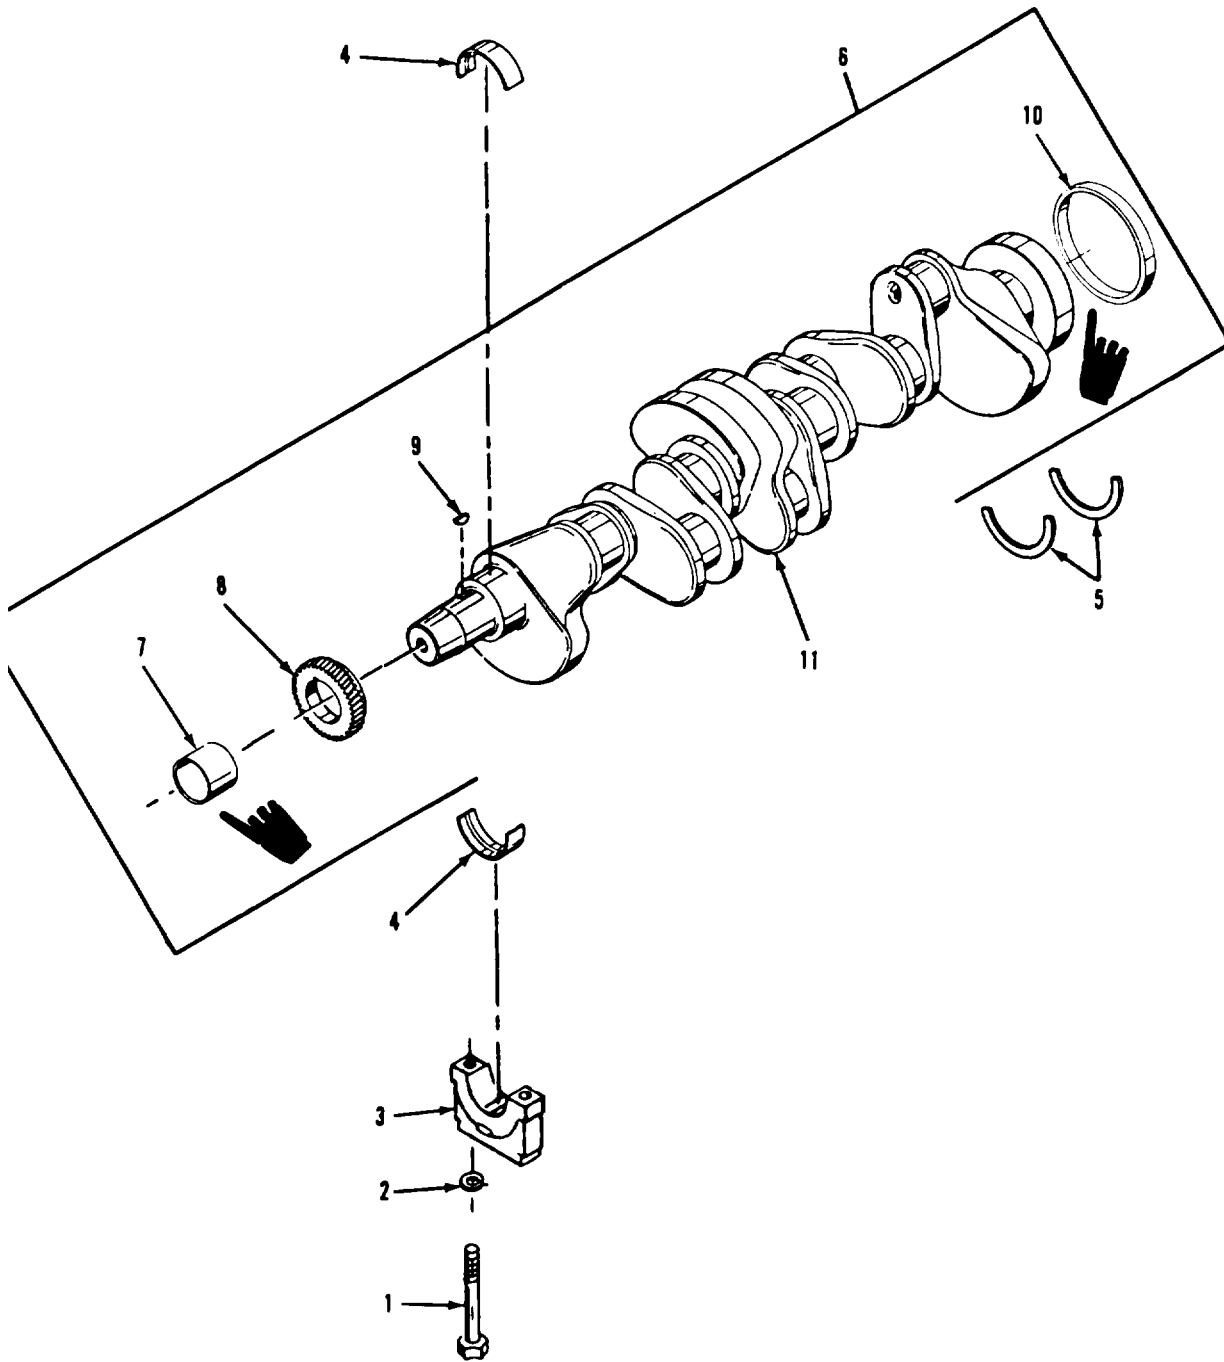

Figure 8-63. Crankshaft group and main bearings,
Refer to figure 8-63 and disassemble crankshaft group and main bearings in the order of index numbers assigned. Pay particular attention to the following:
Do not remove crankshaft gear (8, figure 8-63) and sleeves (7 and 10) unless excessive wear or damage is noted.
- Legend to figure 8-63:
1. Place a small strip of approved plastic between lower bearing half (4, figure 8-63) and crankshaft. Light grease will hold the plastic strip in position.
2. Install main bearing cap (3) and torque bolts from 165 to 185 foot-pounds.
3. Rotate crankshaft one complete revolution. Remove main bearing cap (3, figure 8-63) and measure the thickness of the plastic strip. This measurement is the main bearing clearance. The maximum allowable clearance is 0.010 inch. If allowable limit is exceeded, replace main bearing. Repeat inspection for each main bearing.
h. Inspect crankshaft gear (7) for broken or chipped teeth. If defective, replace gear.
i. Inspect keyway in crankshaft and test woodruff key for a snug fit. Perform this inspection only if crankshaft gear (7) had been removed for repair or replacement.
1. Inspect thrust washers (5, figure 8-63) for excessive wear, distortion, and discoloration. Minimum allowable thickness of washer is 0.175 inch. If limit is not met, replace thrust washer.
Refer to figure 8-63 and reassemble crankshaft group and main bearings in the reverse order of index numbers assigned. Pay particular attention to the following:
If results of inspection in paragraph 8-224 indicated excessively worn bearings, replace bearings at this time. Ensure that bearing tab is aligned with the recess in cylinder block. The upper bearing half has an oil groove machined on the inside of bearing with two oil holes. This bearing half can be installed only as an upper main bearing. It is recommended that all bearings (4, figure 8-63) halves be replaced even if only one bearing must be replaced. When new bearings are installed, proper clearance must be checked as outlined in para. e, steps 1, 2, and 3, above.
f. install thrust washers (5, figure 8-63) on each side of rear main bearing in cylinder block with the words "BLOCK SIDE", that are stamped on each thrust plate, next to the cylinder block half of the upper main bearing.
g. Install lower bearing halves (4) and bearing caps (3) with lower bearing half tab mating with tab on upper bearing half. The bearing caps are numbered to ensure installation on the same journal from which they were removed. Torque bolts as follows :
1. Lubricate thread of bolts (1) with crankcase oil, and tighten from 27 to 33 foot-pounds torque.
2. Mark bolts (1, figure 8-63) and caps (3).. Tighten an additional 85 to 95 degrees from mark.